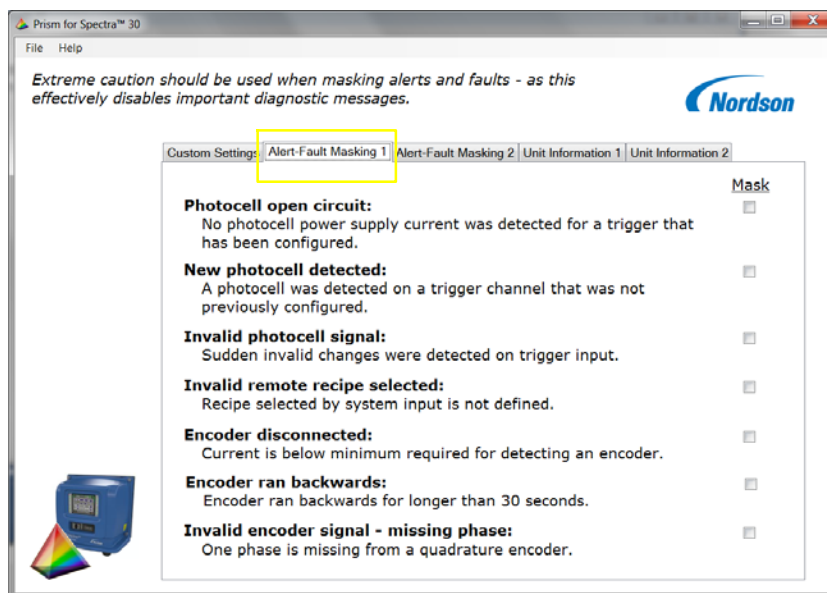

Figure B-2 Settings available in Alarm-Fault Masking 1 tab
- Alert-Fault Masking 1 tab, see Figure B-2